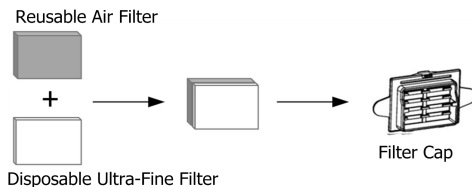

Fig. 18-8
(2) If using the optional disposable ultra-fine filter this can be replaced by removing the filter cap and remove the disposable ultra-fine filter. To install a new disposable ultra-fine filter, place the reusable air filter into the filter cap first and then apply the disposable ultra-fine filter. The disposable ultra-fine filter will be closest to the device, as shown in Fig. 18-8.